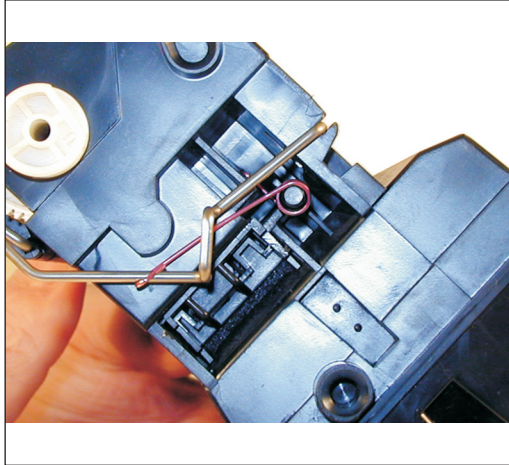

Figure 11
6) Release and remove the spring on the drum cover bar. The spring has been colored for easy identification. See Figure 11